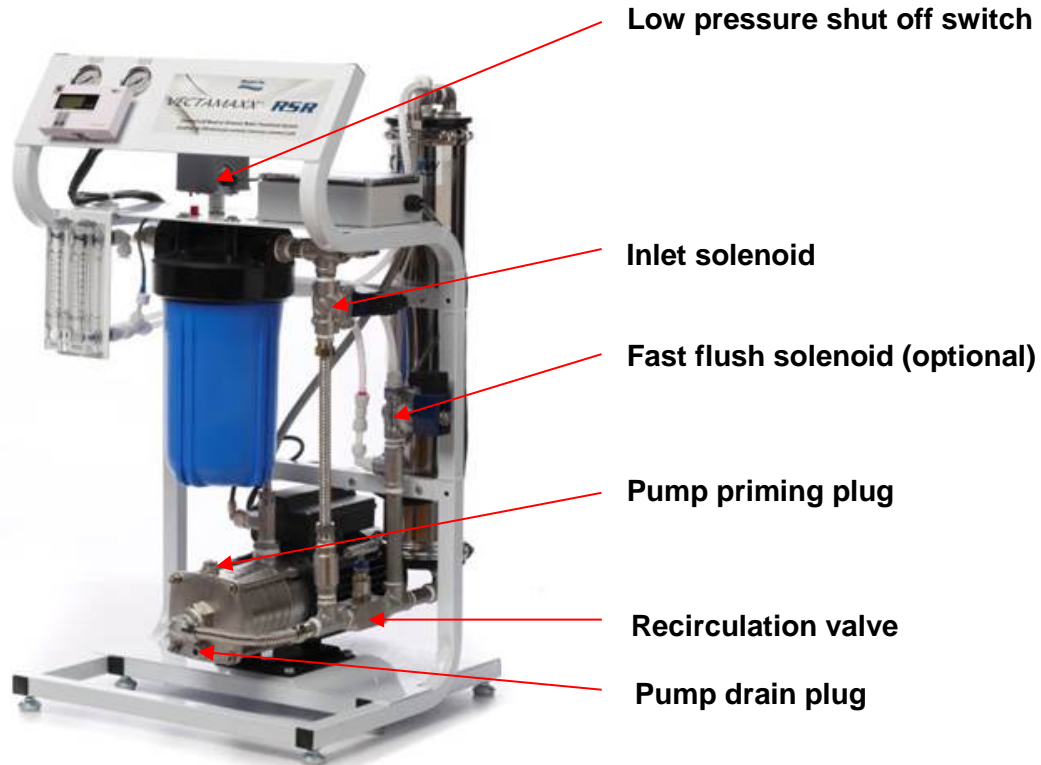

Figure 4.
- 1.0 Turn on the feed water valve to the system and check all connections for leaks. Do not proceed further until any leaks are fixed. Water will flow to the pre-treatment housings but will not pass the inlet solenoid (see Figure 4.) until the system has been started. The available line pressure should now register on the line pressure gauge. Purge any air from the pre-filter housing by pressing the Red valve on top of the housing